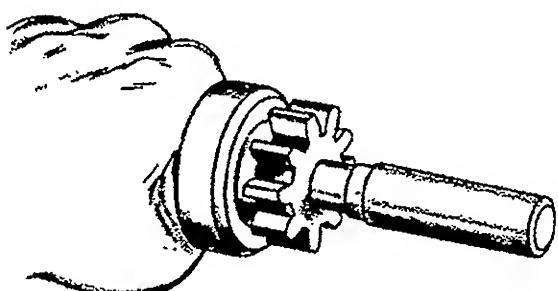

FIGURE 46. TOOL FOR DRIVING PINION STOPPER
5. Solenoid Starter Only: Remove the ring after driving the pinion stopper toward the pinion gear using a cylindrical tool (Figure 46). Remove the overrunning clutch and the pinion stopper at the same time.